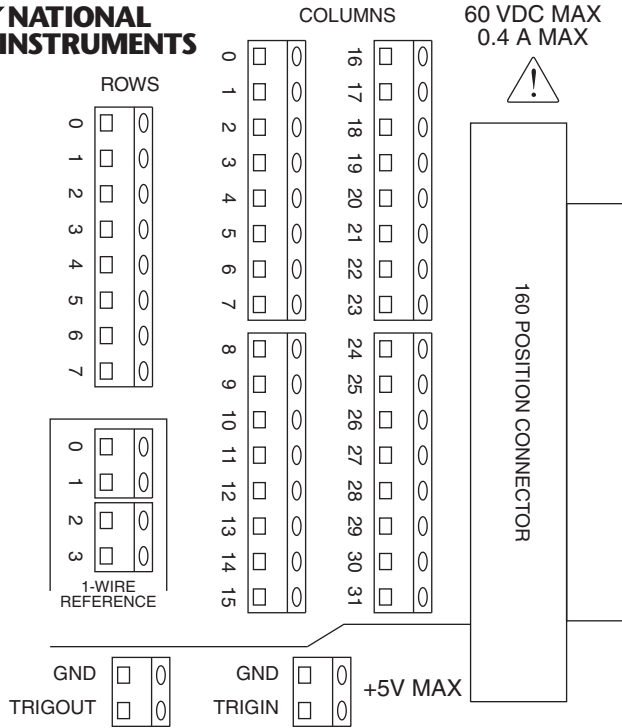

Figure 2. NI TB-2631B Terminal Reference
6. Connect the cables to the terminals by inserting the stripped end of the cable into the terminal. Secure the connection by tightening the screw for each terminal. When connecting the signals, refer to the connection diagram in Figure 2.